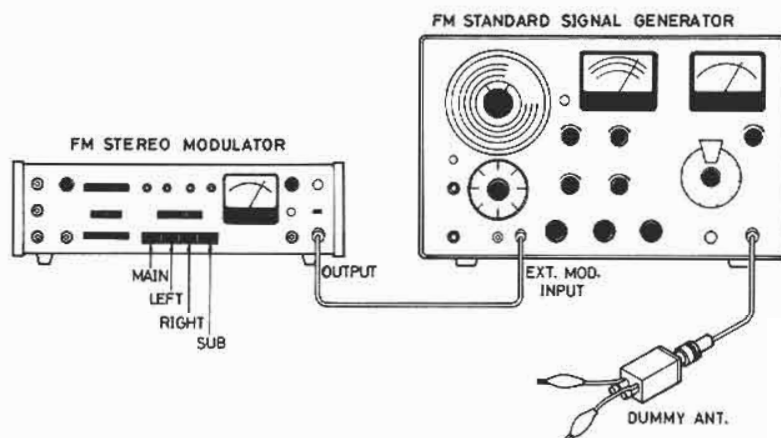

Fig. 18
1. Set stereo signal modulator to the following. Modulation frequency — 1000Hz Deviation Pilot only — 7.5kHz Main & SUB — 67.5kHz Output-EXT jack of RF signal generator Fig. 18.